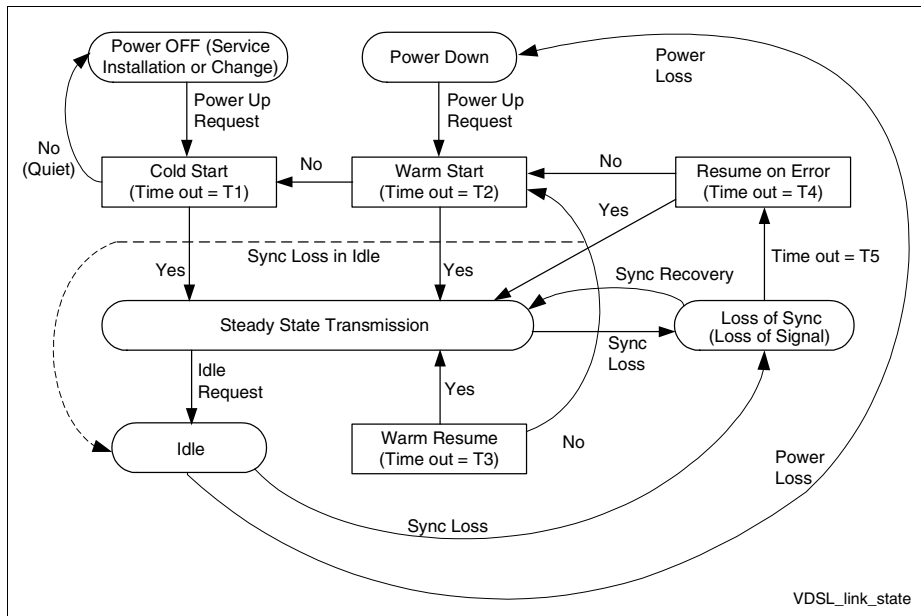

Figure 15 VDSL Transmission Profile Link State Machine
- Standard Sets of Transmission Parameters (STPs) for links used by the state machine (CR_STP, DF_STP0, DF_STP1, DF_STP2, WS_STP, WR_STP). Upon transition to the Steady State, the current STP (CR_STP) always contains the transmission parameters that were current in the previous state. Figure 15 shows different states that may precede the Steady State.